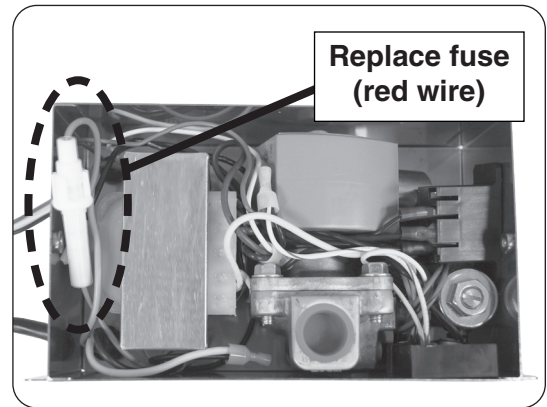

Fig. 57-2 Replace fuse
5. "Push in and twist" the fuse holder (red wire), exposing the fuse (see Fig. 57-2).